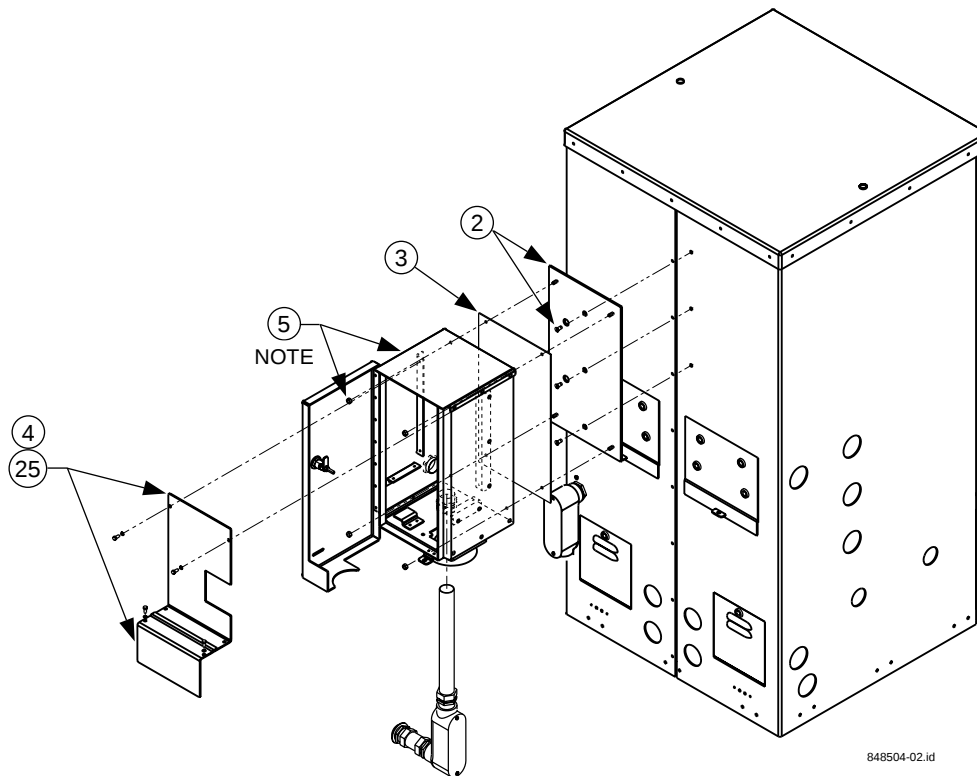

Figure 2. Installation of AC Generator Receptacle Assembly
Note: Refer to Figure 2 for Steps 2 through 5.
STEP 25— Replace the inner circuit breaker and AC inlet covers, removed in Step 4, with the hardware provided (refer to Figure 2).